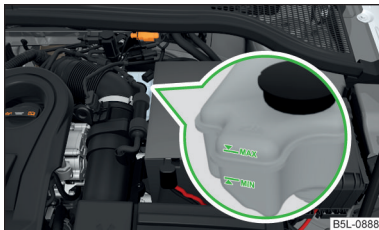

Fig. 163
Check brake fluid level - the brake fluid level must lie between the markings "MIN" and "MAX" » Fig. 163.
- If the fluid level drops significantly within a short time or if it drops below the "MIN" » Fig. 163 mark, this may be an indication of a leak in the brake system. 🛑 Stop driving - There is a risk of an accident! Seek help from a specialist garage.